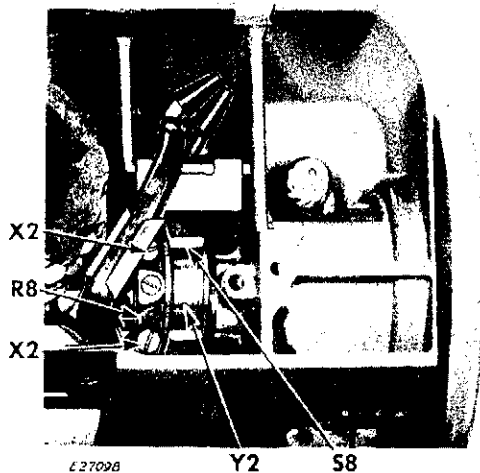

Fig. 317. Feed Lifting Connecting Rod on Arm Shaft
2. Remove two cap screws **X2**, **Fig. 317** and remove connecting rod cap **R8**, **Fig. 317**.
Fig. 317 and so that the oil hole in the lower end the rod faces the front edge of machine bed.
2. Replace cap **R8** over top half of gear hub and fasten cap to rod with two screws **X2**, **Fig. 317**.
arm, through bottom of machine, so that it fits around eccentric **Y2** from bottom, as shown in **Fig. 317**.